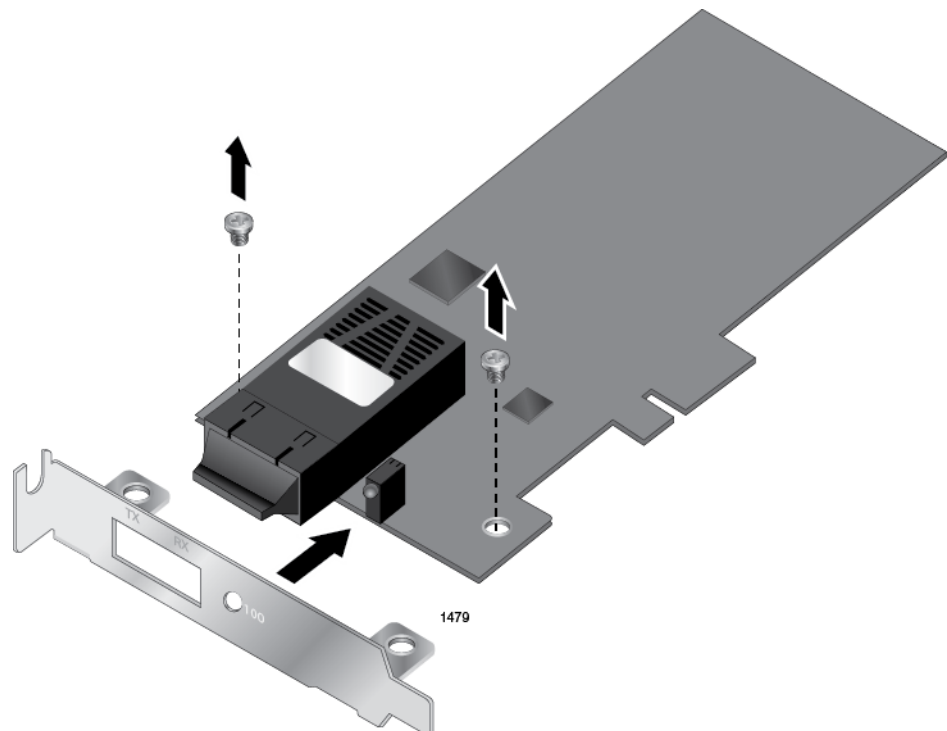

Figure 6. Removing the Low-Profile Bracket
1. Remove the screws that attach the bracket to the adapter card. See Figure 6.